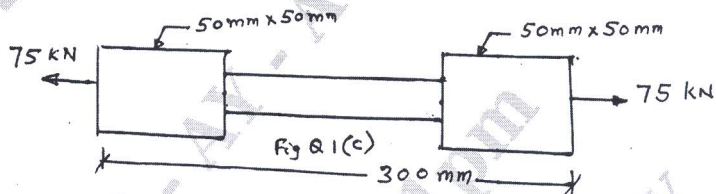

Fig.Q1(c)
- c. A tie bar has enlarged ends of square cross-section $50\text{mm} \times 50\text{mm}$ as shown in Fig.Q1(c). If the middle portion of the bar is also a square section, find the size and length of the middle portion. The stress in the middle portion has to be limited to 150 MN/m^2 and the total extension of the bar is 0.15mm . $E = 200\text{ GN/m}^2$ (10 Marks)